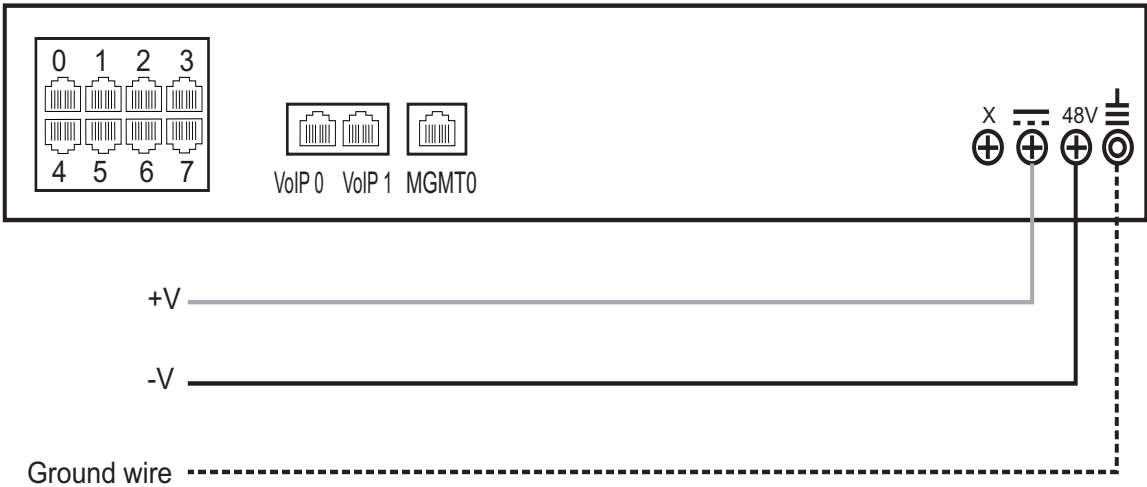

Figure 2.7 TMG800 DC wiring diagram
1. Connect a ground wire to the ground lug located at the rear of the TMG800, as shown in figure 2.7 on page 15.